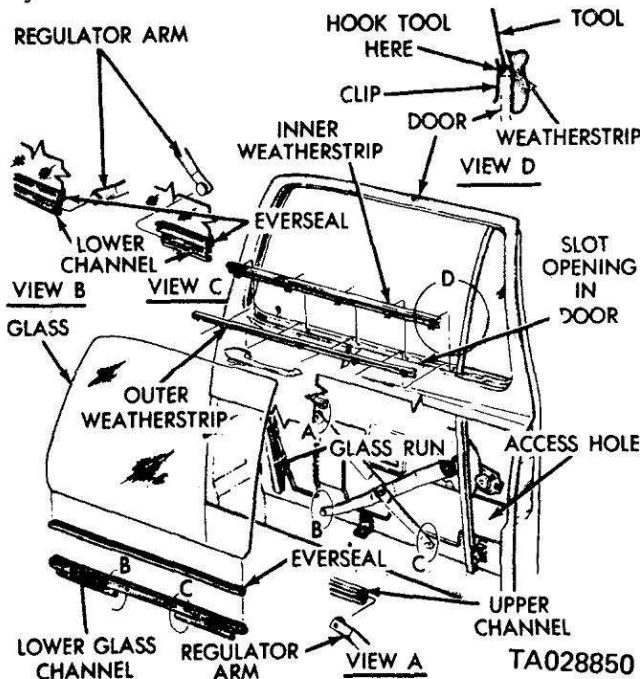

Figure 2-105. Door Glass and Weatherstrip.
- (1) Lower the glass and remove the inner weatherstrip.
- (2) Free the clip on the inner section of the weatherstrip, using a wire hook or similar tool (see upper right-hand corner of figure 2-105).
- (3) Pull back the upper glass run 8 to 10 inches.
- (4) Remove the upper and lower vent wing attaching screws.
- (5) Remove the vent wing. Make sure the lower pivot adjusting screws do not damage the paint.
a. Glass and Glass Weatherstrip. Refer to figure 2-105
- (1) Insert the glass into the everseal.
- (2) Place the channel assembly onto the everseal.
- (3) Press the seal onto the channel securely and lubricate the channel.
- (4) Lower the window regulator to the down position.
- (5) Place the glass and channel assembly into the slot opening in the door. Lower it to the bottom of the door.
- (6) Reach through the access hole in the door and install the regulator to the lower and upper channels on the glass.